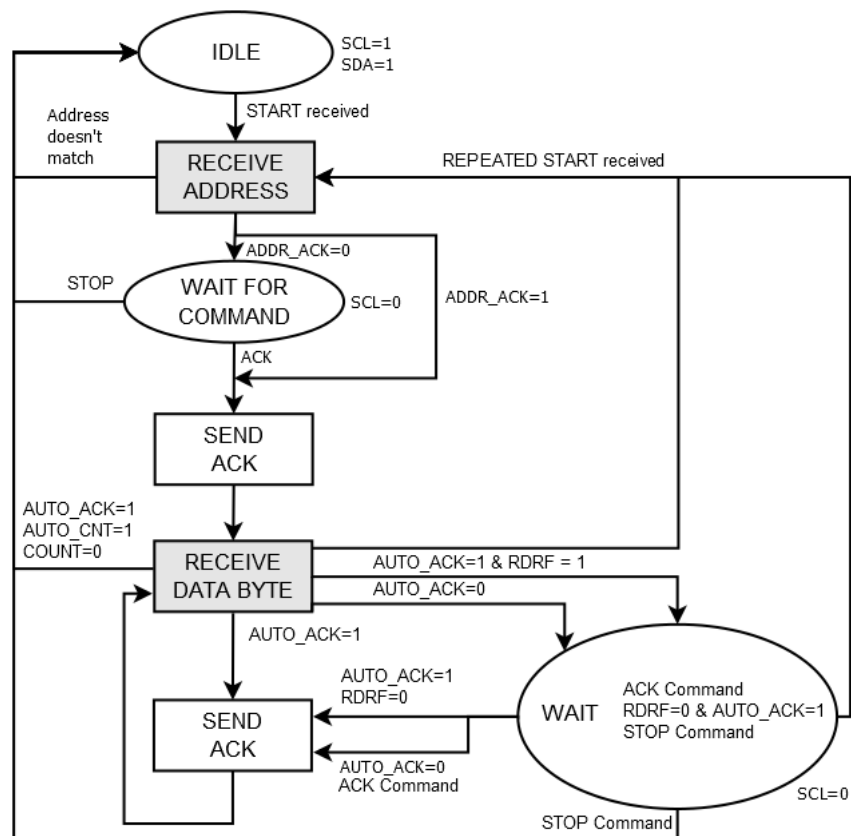
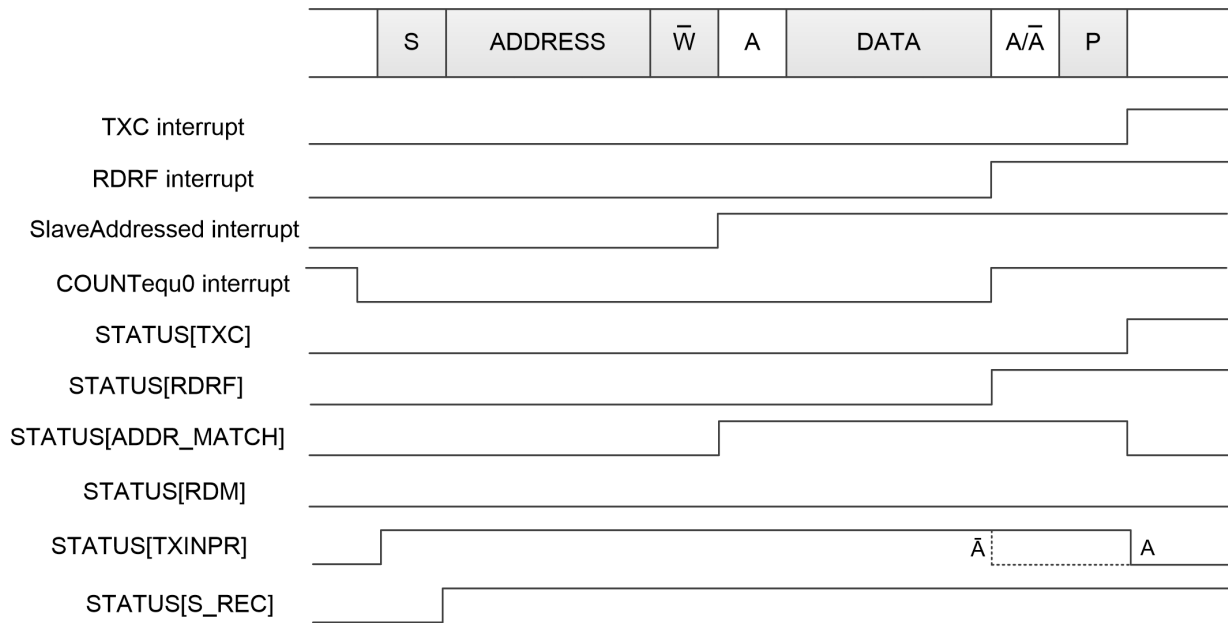
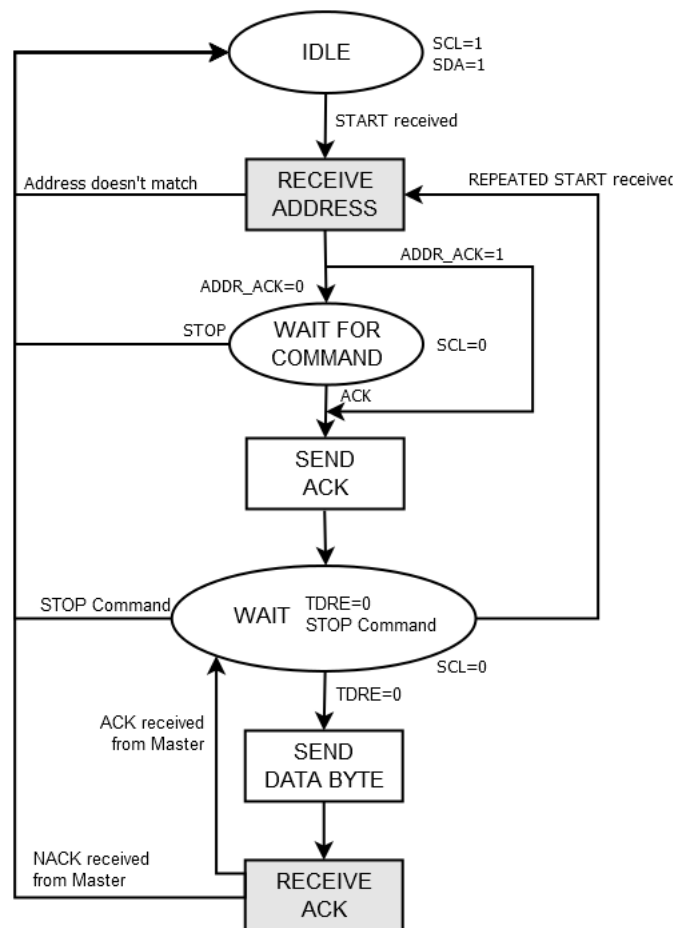

Figure 1.9. Slave reception algorithm.
Figure 1.10. Reception of a single byte of data (ADDR\_ACK = 1, AUTO\_ACK = 1, AUTO\_CNT = 1).
Figure 1.13. Slave data transmission algorithm.
**ACK** The ACK command has a different meaning, depending on the configuration of the module and its current state (Figure 1.9, Figure 1.13). At the address sending stage, when automatic address acknowledge is disabled ( $ADDR\_ACK = 0$ ), ACK command is used to trigger sending of ACK bit to the Master. At the data transfer stage (Slave reception mode), when automatic data acknowledge is disabled ( $AUTO\_ACK = 0$ ), ACK command is used to send ACK bit to the Master. In all other cases, ACK command has no effect.
Figure 1.9 shows a status diagram for the slave reception operation, including possible module configuration variants, and Figure 1.10 shows how the transmission status is reported when receiving a single byte.
**Address reception** After configuration, module monitors SDA and SCL inputs to detect start condition. When start condition is detected (indicated in Status (1.7.2) Register), Slave module receives address byte and compares it to addresses set in the Address (1.7.8) Register (1.7.8). If matching address is detected (Figure 1.10), module indicates this fact through Slave Addressed interrupt. If ADDR\_ACK = 1, Slave responds by sending ACK bit (Figure 1.9). Otherwise module awaits for ACK or STOP command from the firmware. If received address doesn't match, module releases the bus (and thus effectively sends NACK).
Figure 1.13 represents a status diagram for Slave transmission, while Figure 1.14 shows how transmission status is reported when transmitting a single byte.
**Address reception** After configuration, module monitors SDA and SCL inputs to detect start condition. When start condition is detected (indicated in Status (1.7.2) Register), Slave module receives address byte and compares it to addresses set in the Address (1.7.8) Register. If matching address is detected (Figure 1.14), module indicates this fact through Slave Addressed interrupt. If ADDR\_ACK = 1, Slave responds by sending ACK bit (Figure 1.13). Otherwise module awaits for ACK or STOP command from the firmware. If the received address doesn't match, module releases the bus (and thus effectively sends NACK). There's no indication (other than the START bit in Status Register) of the address mismatch.